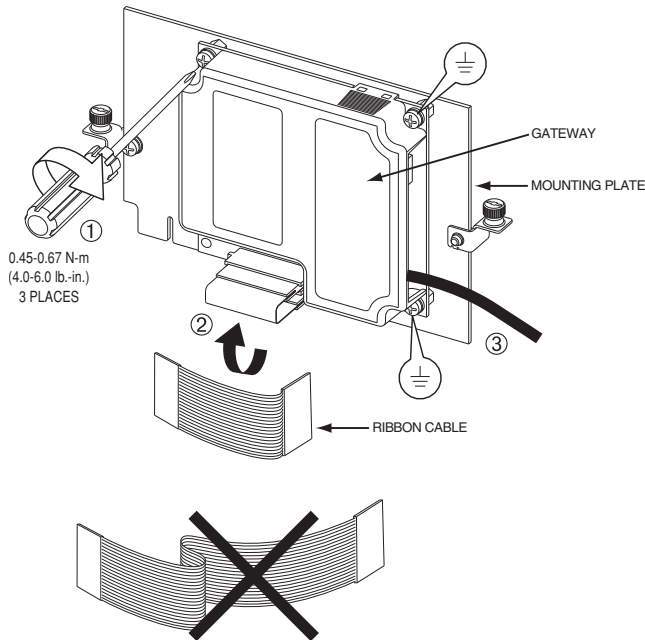

Fig. 23 — COMM Card
4. Remove the 2 screws securing the mounting plate and remove the mounting plate and COMM card. See Fig. 23.
6. Use the shorter ribbon cable to connect the plug on the COMM card to the connector on the mounting plate. See Fig. 23.